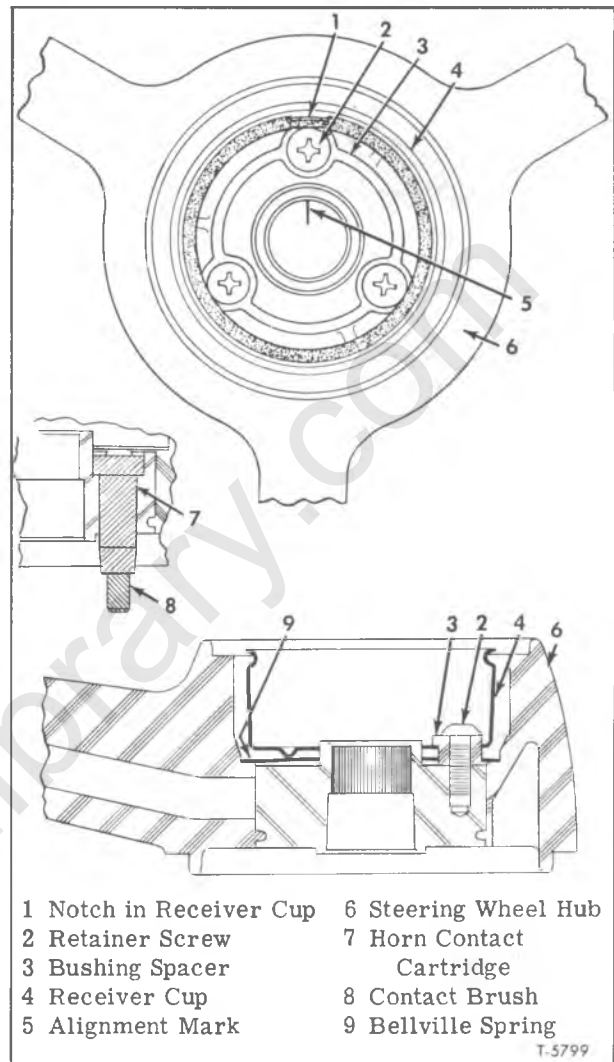

Figure 15—Horn Assembly Components
and it houses the horn switch assembly. It is retained by a washer and lock nut. Steering shaft has an alignment mark stamped on its end, and wheel should be installed with the cut-out portion of horn contact centered with mark on shaft as shown in figure 15.
1. On vehicles equipped with a two-spoke steering wheel, position wheel on steering shaft with spokes of wheel in a horizontal position. On vehicles equipped with a three-spoke wheel, position wheel on shaft with lower spoke of steering wheel in vertical position. Line up cut-out portion of horn receiver cup with mark on steering shaft as shown in figure 15.
6. Slide stop clamp and bolt (16), outer seal (15), spring (14), spring seat (13), and inner seal (12) on upper steering shaft, and in that order. Install floor column seal (2) on steering shaft or column before assembling shaft to steering column.
7. Insert single or two-piece shaft through lower bearing (11), and push upward through upper bearing until shaft (7) extends past top of mast jacket.
8. Referring to figure 15, insert horn contact cartridge assembly (7) into hole in steering wheel hub. Insulator and brush should extend past the underside of hub when fully positioned as shown.
9. Referring to figure 15, install diaphragm type spring (9) receiver cup (4) and plastic bushing spacer (3) into opening at top side of steering wheel hub. Secure all parts with three screws (2) and torque to 20-30 inch-pounds. At under-side of hub, check movement of horn contact brush (8); it should
5. Install steering wheel to steering shaft (7) using care to align mark on shaft end, with center of cut-out portion of horn receiver cup as shown in figure 15. Tap wheel on shaft and install washer and lock nut (8). Torque nut to 45-50 foot-pounds. Press horn button into place in wheel hub.
6. At lower end of steering column position inner seal (12), spring seat (13), spring (14), outer column seal (15), and stop clamp bolt and nut (16) against lower column bearing (11). Install with inner seal inserted in lower bearing recess. Adjust stop clamp so that 0.12" minimum to 0.15" maximum axial shaft end play movement exists. This clearance must be maintained to prevent binding of bearings or steering wheel chocking condition.
5. Place cam and horn contact assembly (8) at under-side of steering wheel hub (10), with horn contact extension inserted in hub. Install steering wheel and cam over shaft end (2), with lower spoke aligned at the 6 o'clock position. Line up cut-out portion of receiver cup with mark on center of shaft end as shown in figure 15. Install washer and nut (11), and torque to 35-45 foot-pounds. Press horn button (13) and retainer ring (12) into place over receiver cup.